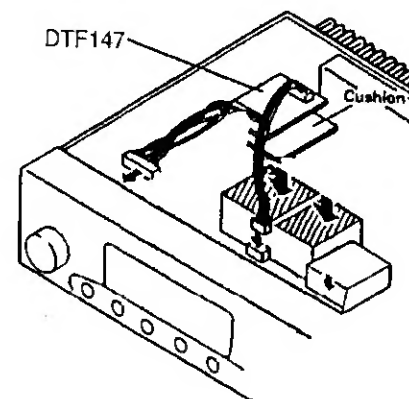

Fig. 2
5. Attach the cable from DTF147 as shown in Fig.2
Attach this unit on the top of VCO shield (Fig. 2)